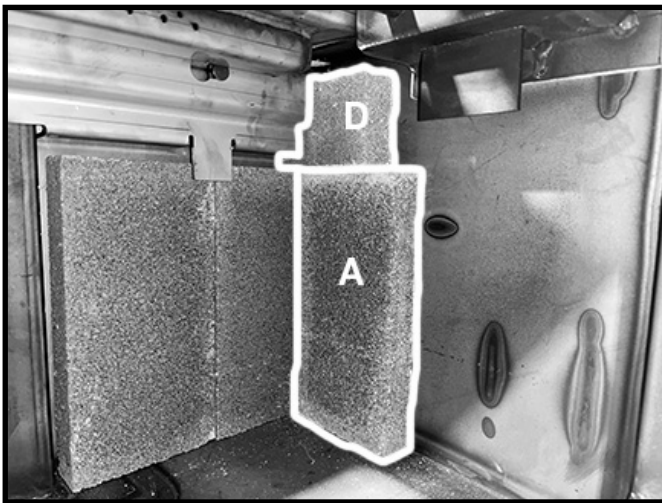

Figure 13: 1st side wall bricks in place.
3. For the side walls: Slide a "D" firebrick up into the back corner of the firebox then, while holding it in place, stand an "A" firebrick against the side wall under the "D" firebrick and up against the rear wall firebrick. Figure 13.